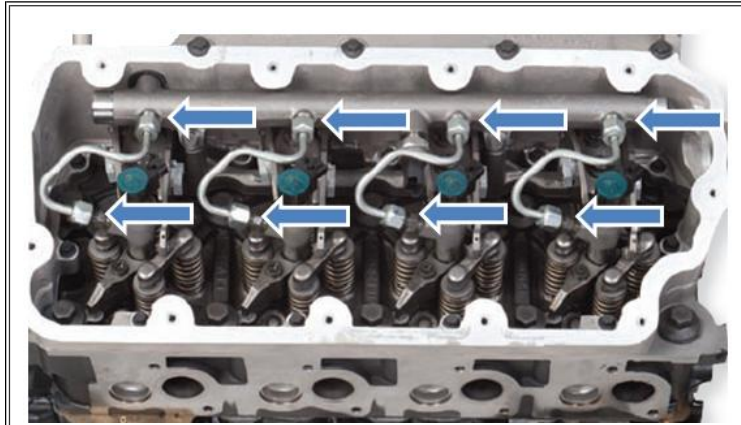

Figure 2: Injector Jumper Tube Leak Locations
6. After sufficient FRP has been built and time has gone by to cycle the dyed fuel through the system, shut the engine down and one at a time remove the paper towels inspect them with a black light for dyed fuel or wetness. See Figure 2 above for most likely leak locations.